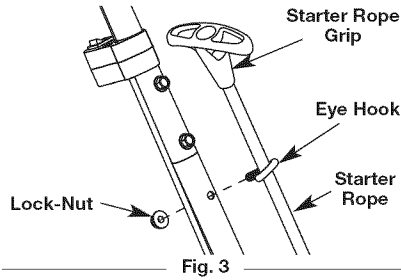

Fig. 3
- Pull out the starter rope and run it into the eye hook (Fig. 3).
- Insert the eye hook into the remaining hole on the straight metal shaft (Fig. 3).
- Screw the nut onto the eye hook (Fig 3) and use a 7/16" wrench to tighten. **DO NOT OVERTIGHTEN.**